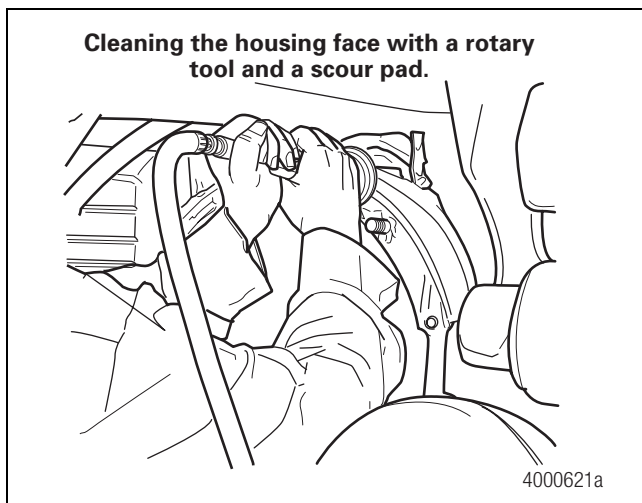

Figure 4.11
3. Use a rotary tool with a scour pad to clean all silicone residue from the housing and carrier faces. Figure 4.11. Surfaces must be clean, dry and free of foreign matter. The surfaces must not be oily to the touch.